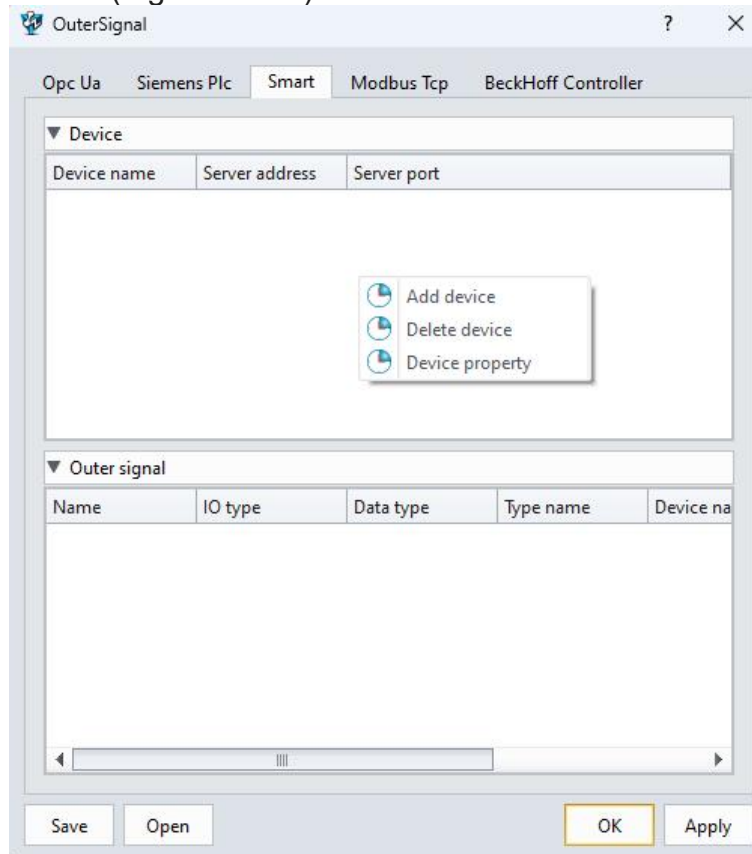

Figure 12-11: Outer signal
- Under "Modbus Tcp", right-click the blank box under "Devices" and select "Add Device". (Figure 12-11)